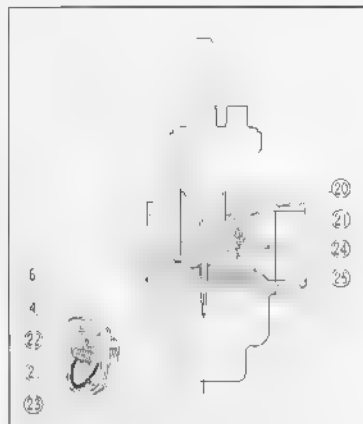

Fig. 3.117 Choke
When an engine is cold or the temperature is low during starting, a rich fuel mixture is temporarily required. This can be had by the use of the choke. When the choke lever is pulled up, the choke 20 is fully closed. The opening (23) is normally closed by the relief valve (21), however, during starting when the throttle is opened approximately 1/4 and the kick starter operated, the negative pressure created in the cylinder will cause the relief valve (21) to open by the proper amount, (section 24) and permit air to pass through the carburetor, this flow of air draws the fuel out of the needle jet (4) to provide an air/fuel mixture ideal for starting. After the engine starts, the inlet negative pressure increases, and causes the relief valve (21) to open correspondingly wider to assure a suitable mixture. Thus, the opening of the relief valve (21) changes according to the opening of the throttle valve (6), section (25) (Fig. 3.117)